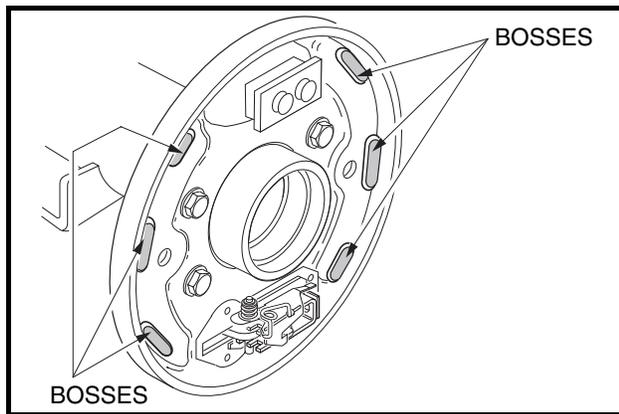

Figure 6-8 Lubricate Raised Bosses
4. Use a small brush to carefully apply a light coat of white lithium NLGI #2 grease (Dow Corning® BR2-Plus or equivalent) on each of the six raised bosses on brake backing plate (Figure 6-8, Page 6-4). See preceding WARNING.